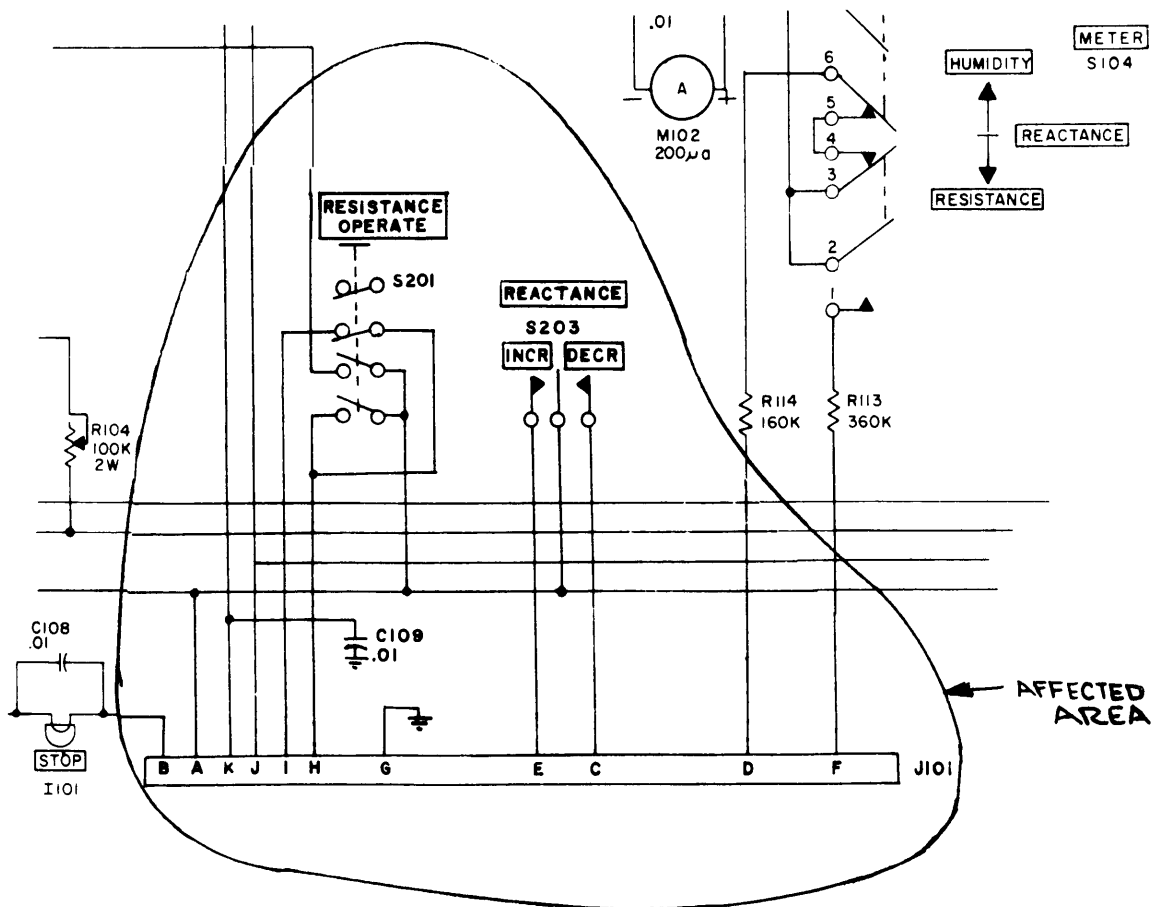

Figure 1
4. Figures 8-2 and 8-3 should be changed in accordance with the information shown on figures 1 and 2 respectively of this addendum.